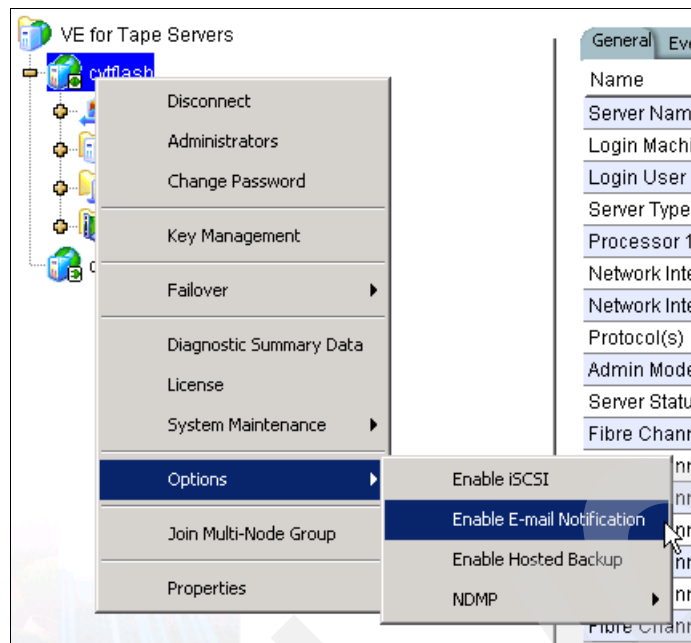

Figure 11-14 Enable E-mail Notification
2. As shown in Figure 11-14 on page 370, use the TS7530 VE for Tape Console and right-click **<your TS7530 server>** and then select **Options → Enable E-mail Notification**.
Once e-mail notification has been configured, the settings can be easily changed. Use the VE for Tape Console by right-clicking **<your TS7530 server>** and then selecting **E-mail notification**, as shown in Figure 11-14 on page 370. All the options that were previously configured are available to be changed.